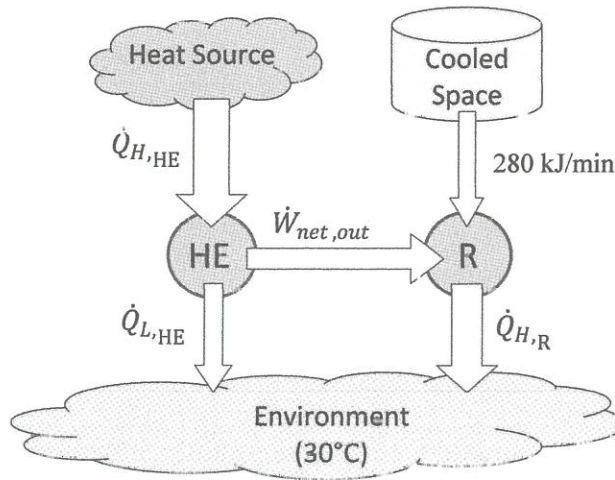

Figure Q4 (b)
- (b) A Carnot heat engine receives heat at 1000 K and rejects the waste heat to the environment at 30°C. The entire work output from the heat engine is used to drive a Carnot refrigerator as shown in **Figure Q4 (b)**. The refrigerator operates by removing heat from cooled space at -10°C, at a rate of 280 kJ/min and rejects the heat to the same environment at same temperature.